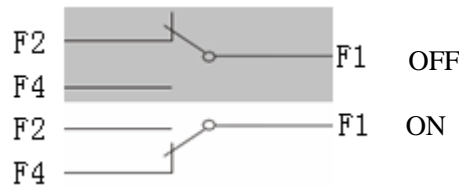

Fig 8
11.1 Rated parameters of the auxiliary contact (Table6、fig8)